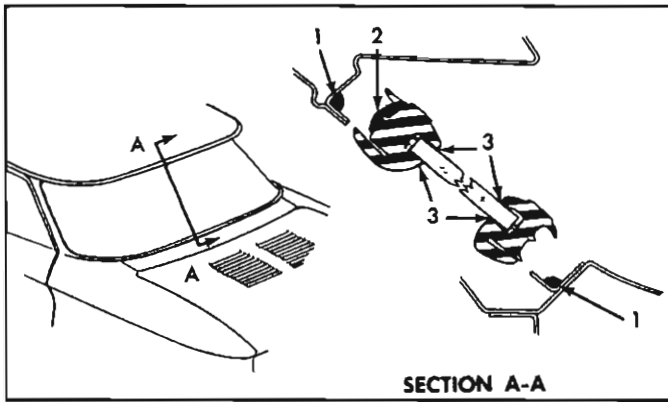

Fig. 16—Back Window Sealing—“69” Styles
4. Apply a continuous bead (approximately 1/8" in diameter) of medium-bodied sealer to corner of back window rabbet completely around opening ("1", Figure 16).
5. Apply a continuous ribbon (approximately $\frac{3}{16}$ " thick x $\frac{1}{2}$ " wide) of medium-bodied sealer to the base of the rubber channel ("2", Figure 16) across the top and down the sides.